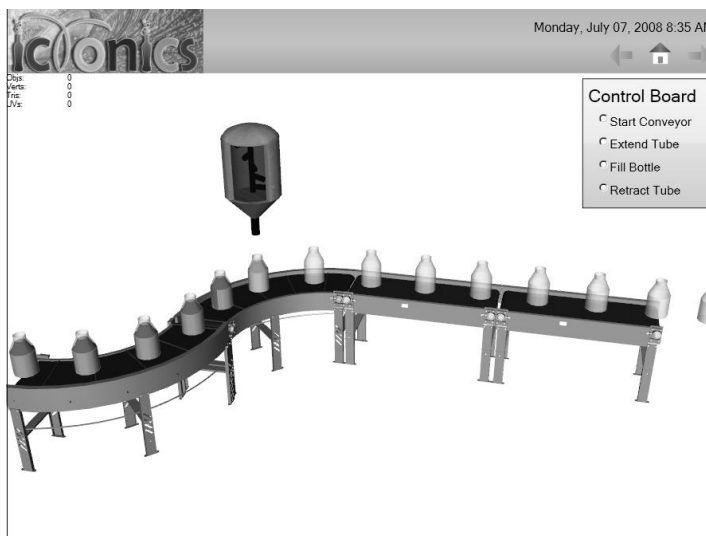

**Figure L6.12 - Finished Display**
24. Your display should now look similar to Figure L6.12.